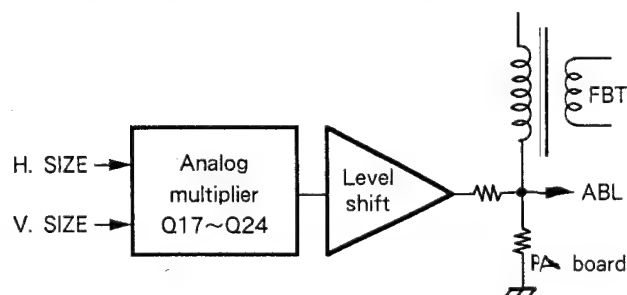

Fig. 8
- (3) SIZE ABL CIRCUIT...Since ABL circuit is a total high - voltage limiter, when its size is halved, the current density per unit area is doubled. This can become the cause for partial burning of the tube surface and cracking of the CRT due to heat concentration. This set has a particularly wide size range, the current density can become several times larger. For this reason, a SIZE ABL circuit, which keeps the current density per unit area fixed, was added. Control voltage H. SIZE and V. SIZE are multiplied and the result added to the ABL detection point, as shown in Fig. 8. As a result, the detecting voltage is changed. The ABL is therefore being changed through the use of SIZE.